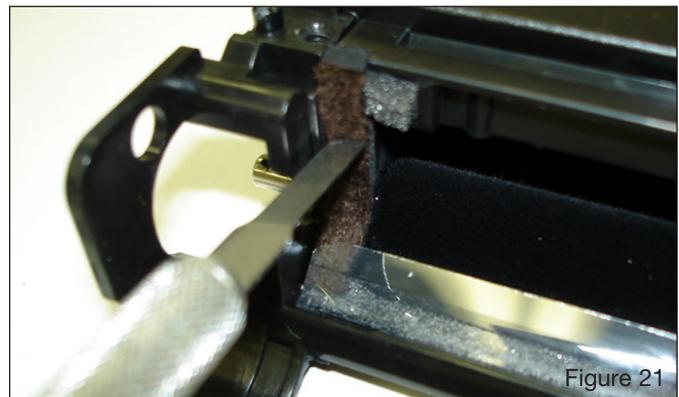

Figure 21
10. Fluff the felts on each end of the hopper section with the scraper tool to prevent toner from leaking around the ends of the developer roller. See Figure 21.